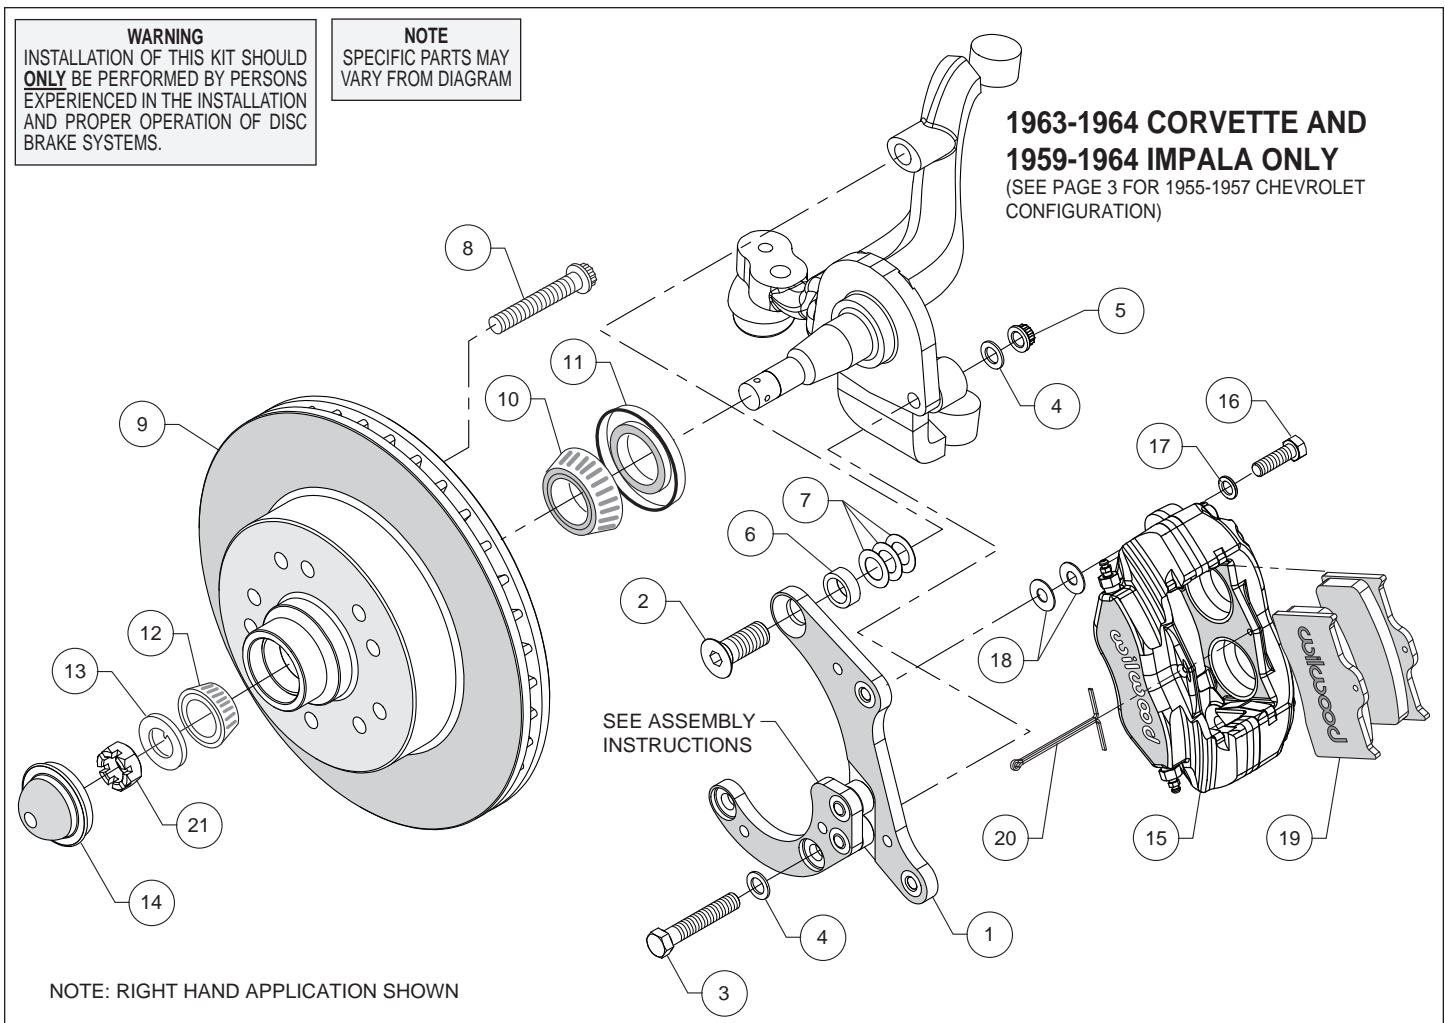
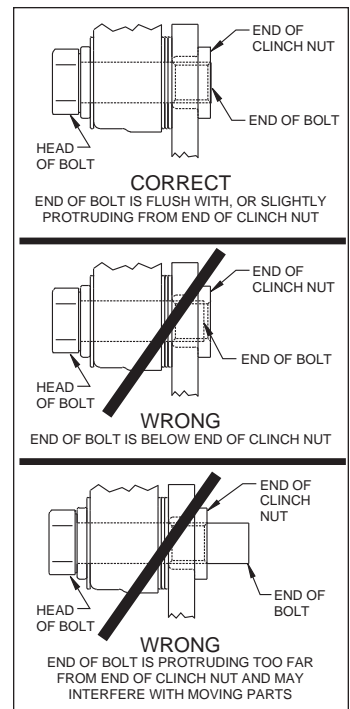

Figure 1. Typical Installation Configuration, 1963-1964 Corvette, 1959-1964 Impala/Belair
Figure 4. Clinch Nut Engagement Diagram
Assembly Instructions (numbers in parenthesis refer to the parts list and Figures 1 and 2 on the preceding pages): **CAUTION: All mounting bolts must fully engage clinch nuts.** Be sure to check that all bolts are either flush or protruding through flanged side of clinch nut after shimming, Figure 4.
- Orient the bracket as shown in Figure 1 and Photo 1, and install using bolts (2) in the upper hole. Place a .345" thick spacer (6) positioned between the bracket and spindle, as shown in Figure 1. Initially use three .015" shims (7) on the upper bolt between the bracket and spindle, Figure 1. Install bolts (3), washers (4) and nuts (5) in the lower holes, Figure 1. Temporarily tighten the mounting bolts, followed by the two bracket-to-bracket bolts. **NOTE: The bracket must fit squarely against the mounting points on the spindle.** Inspect for interference from casting irregularities, machining ridges, burrs, etc. Later, after the bracket alignment has been checked, the bolts will be secured using red *Loctite*® 271.
- Pack the large inner bearing cone (10) with high temperature disc brake bearing grease (available from your local auto parts store) and install into the backside of the hub (9), Photo 3.
- Install the grease seal (11) by pressing into the backside of the hub (9), flush with the end of the hub.
- Temporarily install the hub/rotor (9) onto the spindle using outer bearing (12), spindle washer (13) and spindle nut (21). Check that the caliper mounting bracket (1) is aligned parallel to the rotor, Photo 4. If not, adjust by adding or subtracting shims (7) on the upper bolt between bracket and spindle, Figures 1 or 2. Once the bracket alignment is correct, remove the upper bolt (2 or 2A), apply red *Loctite*® 271 to the threads and torque to 140 ft-lb. Torque lower lock nuts to 47 ft-lb. Remove one at a time the bolts that secure the two brackets to each other, apply red *Loctite*® 271 to the threads and torque to 40 ft-lb.
- NOTE:** *Please reference the caution statement at the beginning of the assembly instructions.* Mount the caliper (15) onto the caliper mounting bracket (1) using bolts (16) and washers (17), as shown in Figures 1 or 2. Initially place two .035" thick shims (18) on each bolt between the caliper and the bracket, Photo 8. Temporarily tighten the mounting bolts and view the rotor (9) through the top opening of the caliper. The rotor should be centered in the caliper, Photo 9. If not, adjust by adding or subtracting shims (18) between the bracket and the caliper. Always use the same amount of shims on each of the two mounting bolts. **NOTE:** *The end of each bolt must be flush with or slightly protruding from the head of the clinch nut, as shown in Figure 4.* If necessary place spare shims between washer (17) and caliper mounting ear to achieve the proper clinch nut engagement. Once the caliper alignment and clinch nut engagement are correct, remove the bolts one at a time, apply red *Loctite*® 271 to the threads, and torque to 40 ft-lb.